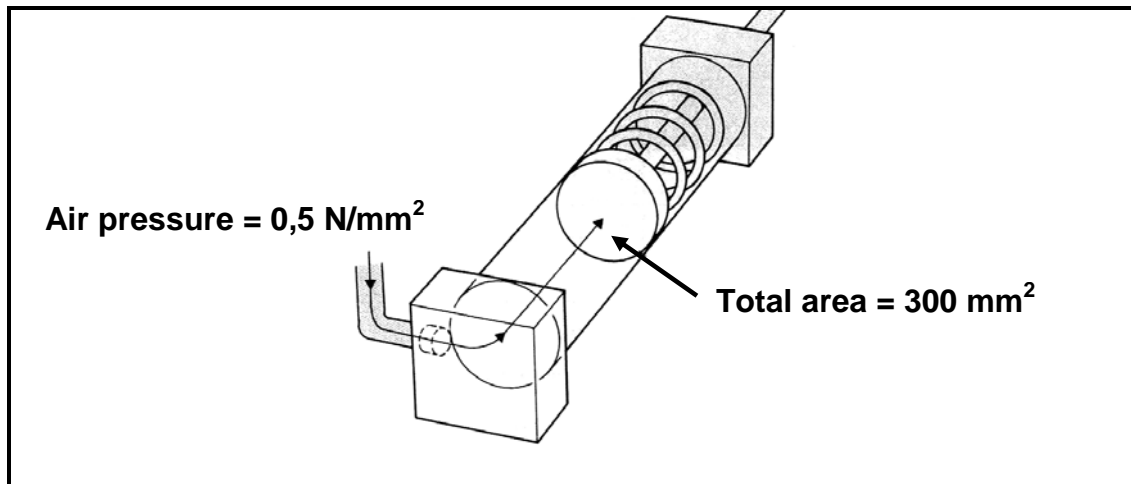

FIGURE 1.6
1.17 How much force is produced by the piston shown in FIGURE 1.6 below if the air pressure is 0,5 N/mm²?